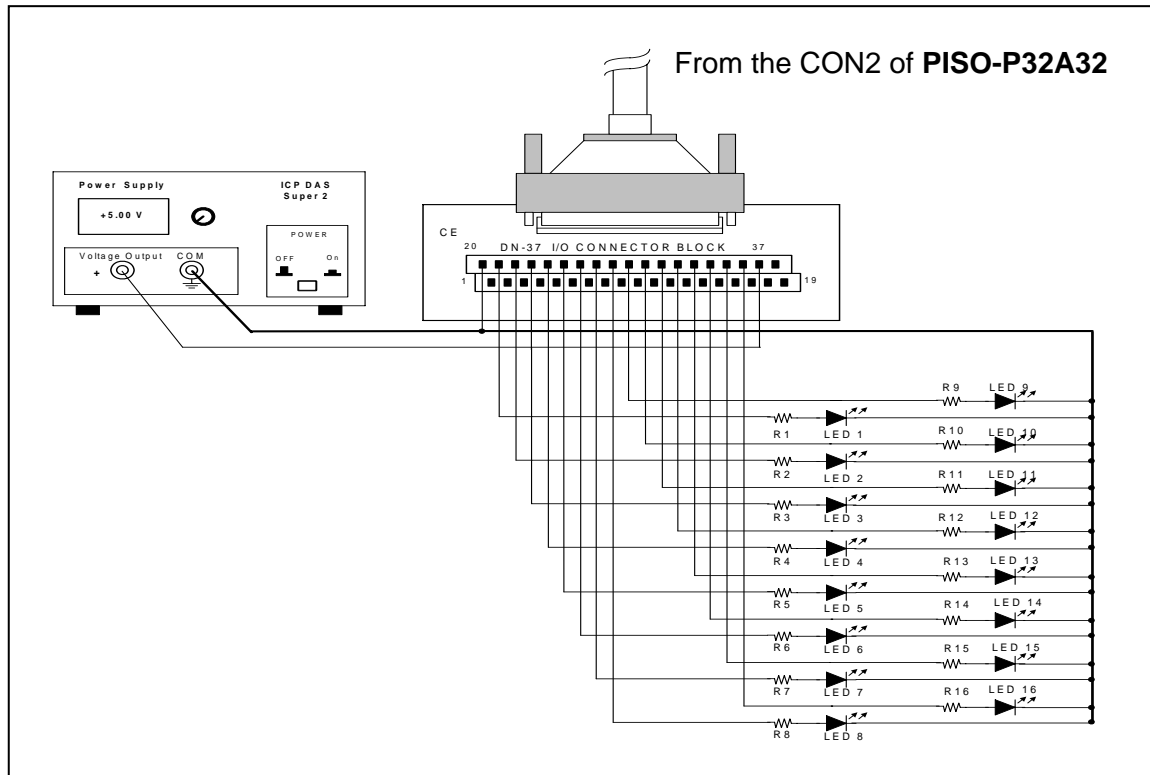

Figure 4-1-5. The circuit diagram of external device 2 for the digital outputs of **PISO-P32A32**
- Figure 4-1-5(PISO-P32A32) shows the circuit diagram of external device 2